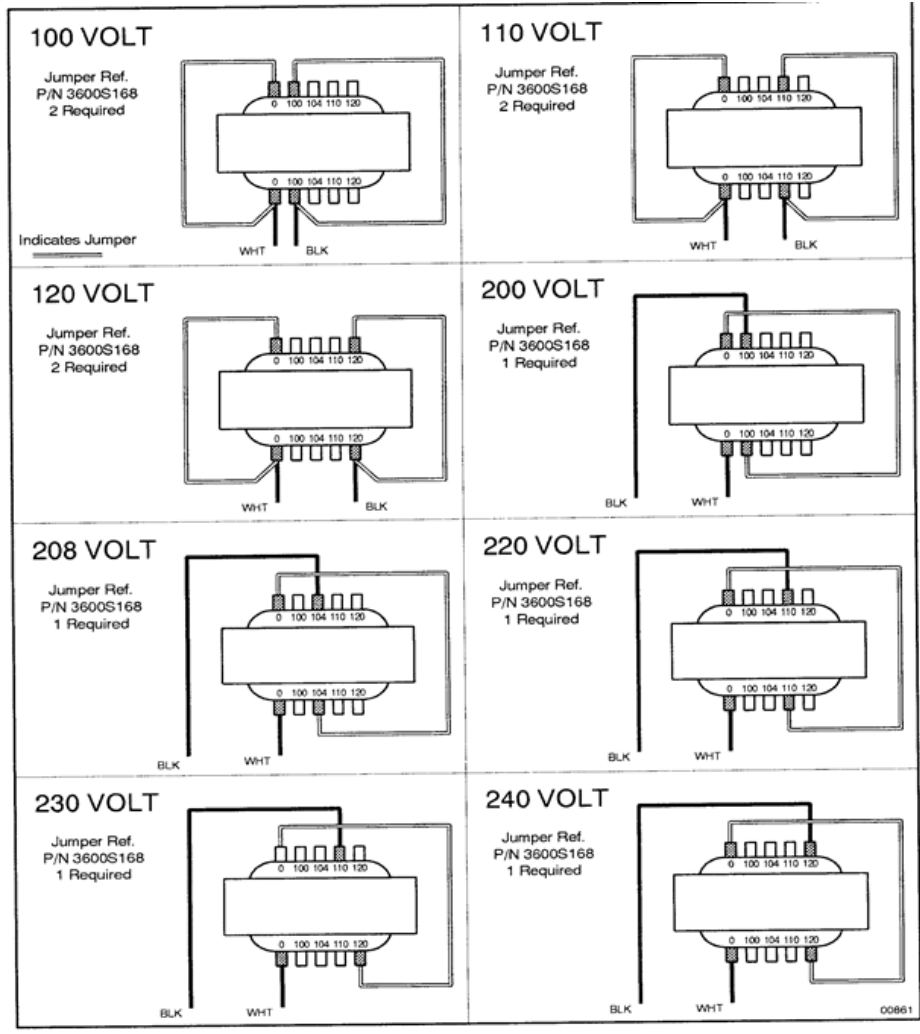

Figure 4-9 Isolation Transformer Voltage Diagrams. (Internal, Column Mounted)
4. Move one jumper point at a time. Pull it straight up off the terminal, and push it firmly down on the destination terminal. See Figure 4-9.